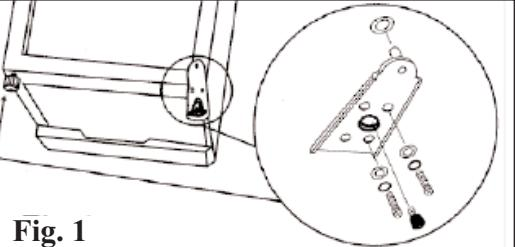

Fig. 1
- 1) To access the lower hinge assembly, tilt back the refrigerator or lay the refrigerator on its back (Fig. 1).
- 3) Remove the screws holding the lower hinge assembly to the refrigerator (Fig. 1).